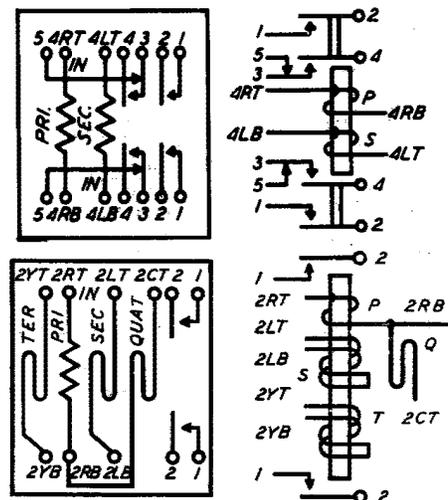

Fig. 2 - Winding and Spring Terminal Arrangement as Viewed From the Rear (terminal side) — A-, E-, F-, H-, M-, R-, AB-, EA-, and 236-Type Relays
2.10 The first letter (L, R, C, or Y) shows the location of the winding terminal with respect to the relay core. The terminals are arranged in two horizontal rows as shown in Fig. 2. Where no more than two winding terminals are in one row, the designations L and R are used, L designating a terminal to the right and R a terminal to the left of the core as viewed from the rear of the relay. Where there are more than two winding terminals in a row the designations C and Y are also used. The C terminal is located to the right of the L terminal and the Y terminal to the left of the R. Contact springs are often located between winding terminals, so that the winding terminals C and L or Y and R may not be adjacent to one another.